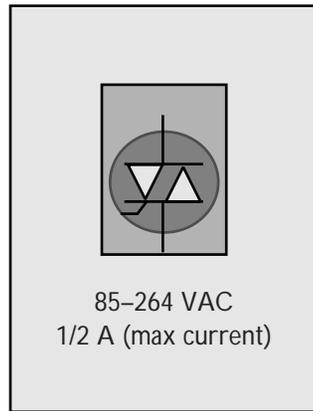

Figure 2-23. Triac output.
**Triac Outputs.** **Triac outputs** (see Figure 2-23) work with output devices that must receive a 85–264 VAC control signal. For a triac, the maximum output current to each device is 0.5 A.